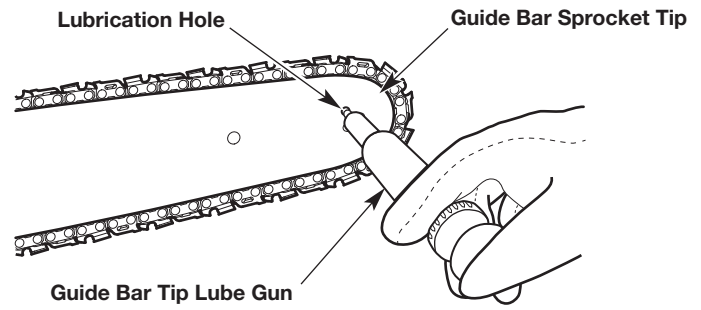

Fig. 41
1. Clean the guide bar sprocket tip thoroughly with a damp cloth (Fig. 41).
2. Use a guide bar tip lube gun (not included) to inject grease into the lubrication hole (Fig. 41). Inject grease until it appears on the outer edge of the guide bar sprocket tip.